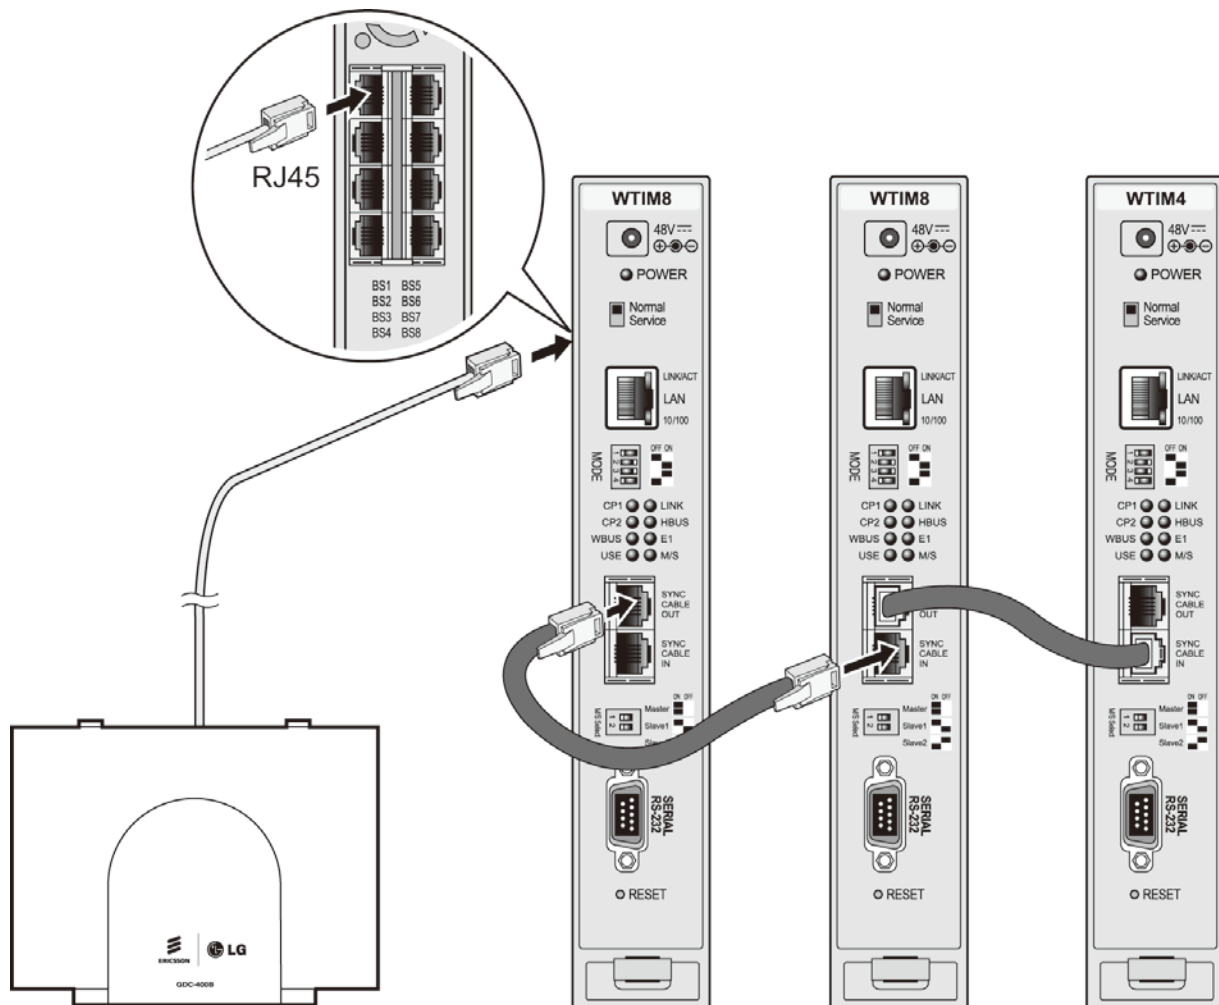

Figure 4.5.19-1 Cascading connections of WTIM4/8
When multiple WTIMs are installed and handover between Base Stations (GDC-400Bs) is required, the WTIMs must be interconnected. Up to three (3) WTIMs may be interconnected to allow handover between the connected Base Stations. Wiring for this connection is shown in Figure 4.5.19-1 below. The WTIM interconnection is a separate connection not provided by the back plane, thus, even when the WTIMs are installed in a cabinet the interconnection of the WTIMs is required.